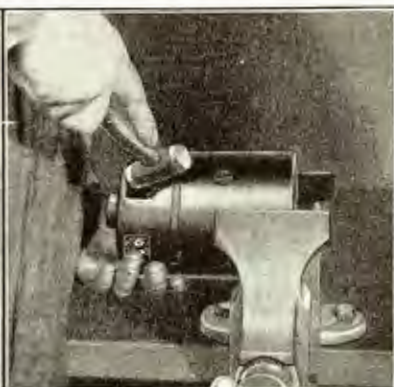

Fig. 458
- (b) Run out the four brush end bracket to yoke screws "B". The bracket can then be removed from generator yoke by tapping bracket with a copper hammer as shown in Fig. 458.